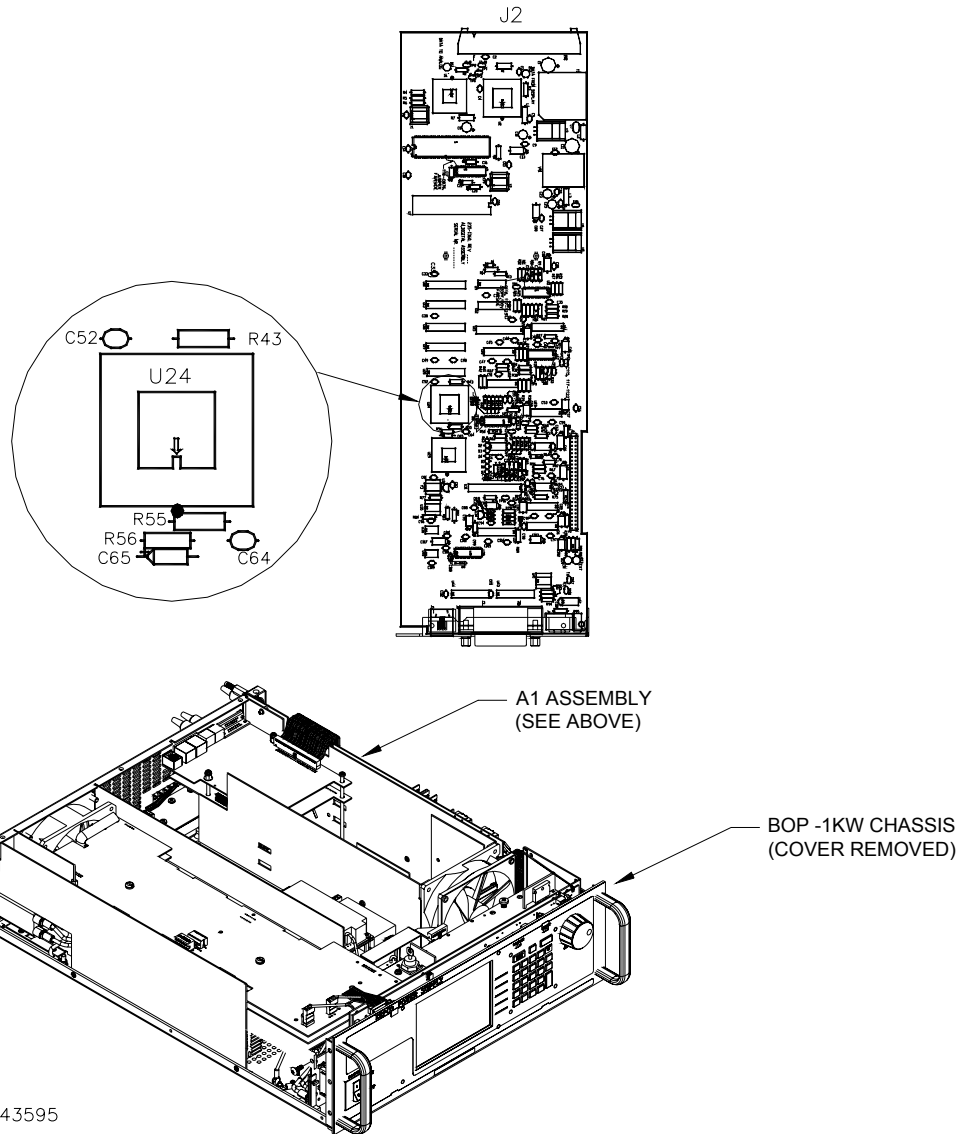

FIGURE 1. DIGITAL BOARD A1 PROM LOCATION
3.4 DIGITAL BOARD A1 COMPONENT REPLACEMENT (SEE FIGURE 1)
1. On Digital board A1, locate PROM, U24 (see Figure 1).
6. Insert the PROM into the socket, insuring the dot on the chip is oriented as shown in Figure 1.